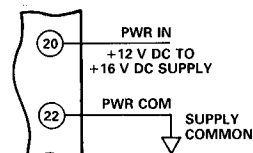

Figure 15. Powering the AD203SN
**Powering the AD203SN.** The AD203SN requires only a single +15 V dc power supply connected as shown in Figure 15. A bypass capacitor is provided in the module.